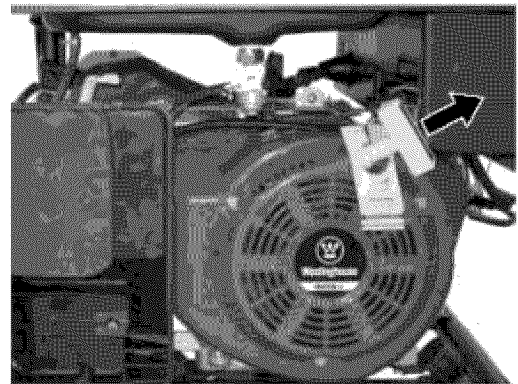

Figure 25
5. Firmly grasp and pull the recoil handle slowly until you feel increased resistance. At this point, apply a rapid pull while pulling up and slightly away from the generator (see Figure 25).